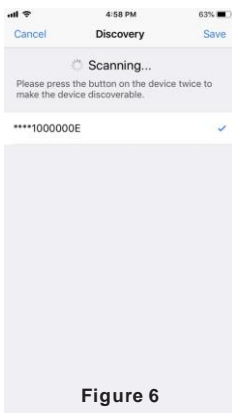

Figure 6
5. Once the device/devices are discovered, tick the device/devices and tap “Save” button, the device/devices will be added successfully. (as shown in **Figure 6**)